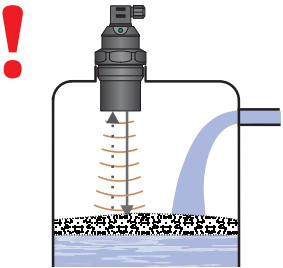

Fig. 5: Thick foam on the surface
- g) **Foam** may be produced on the surface of the measured liquid during filling, mixing and other processes. The thick foam significantly absorbs the ultrasound signal and may cause malfunction of the device (Fig. 5). In those cases it is necessary to test the device in advance and, if necessary, to contact the manufacturer.